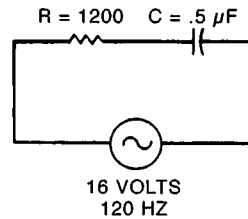

Figure 3-54
18. Refer to the circuit in Figure 3-54. The impedance of this circuit is:
19. The true power dissipated in the circuit of Figure 3-54 is:
20. The approximate phase shift in the circuit of Figure 3-54 is:
21. The approximate cut-off frequency of the circuit in Figure 3-54 is: